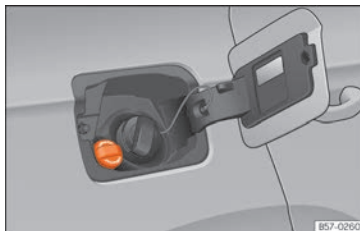

Fig. 226 AdBlue tank cap.
- Open the tank cover »» Fig. 226.
- Turn the SCR tank cap anti-clockwise »» Fig. 226.